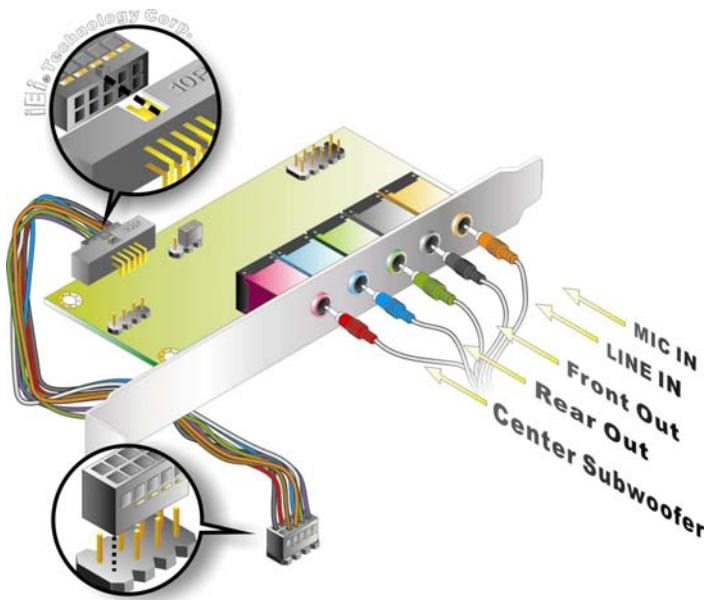

Figure 4-11: 7.1 Channel Audio Kit
Step 3: Align pin 1. Align pin 1 on the on-board connector with pin 1 on the audio kit cable connector. Pin 1 on the audio kit cable connector is indicated with a white dot. See Figure 4-11.